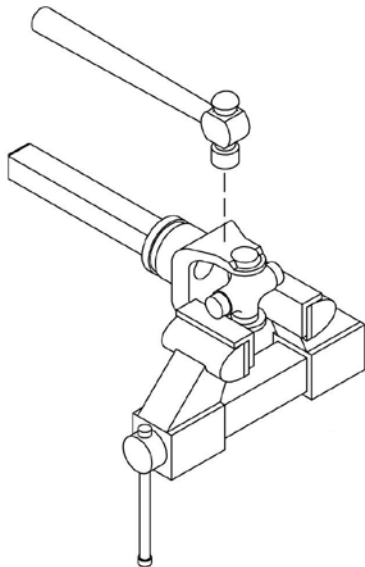

Figure 22. Remove Cups
4. Place universal cross in vise as shown in Figure 22 and tap on yoke to remove cup. Repeat Step 3 for final removal. Drive remaining cup out with a drift and hammer.